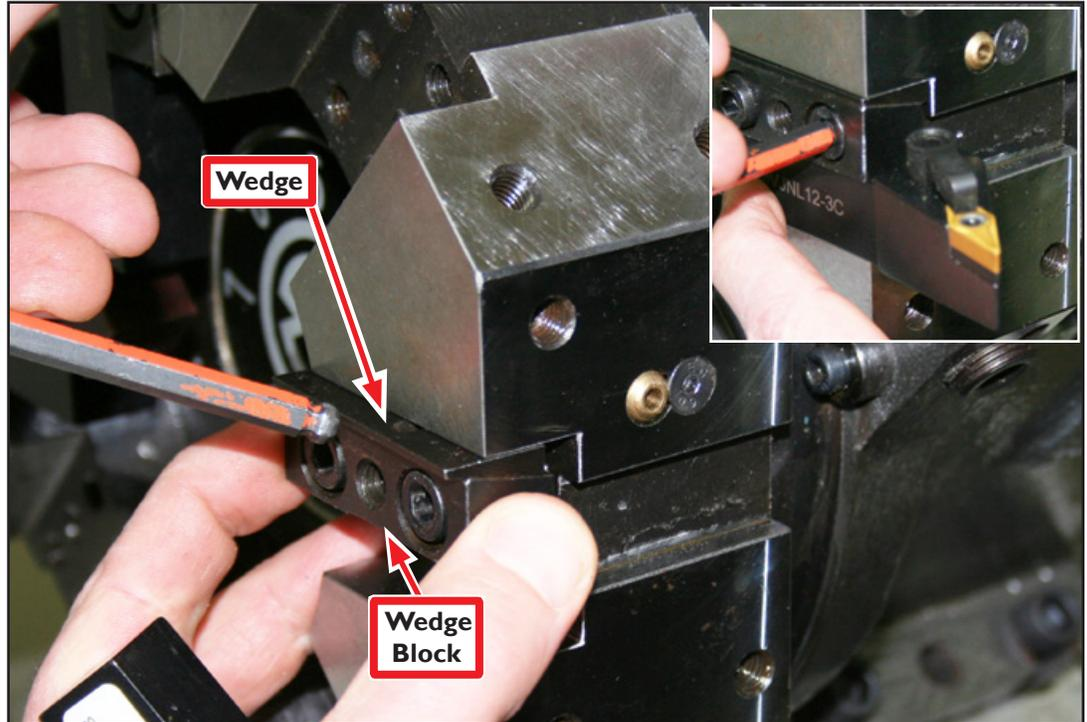

Figure 38
20. Hold Wedge Block while pushing in on Wedge as shown in **Figure 38**.
21. Insert tool and tighten Wedge Block snugly (see **Figure 38** inset).